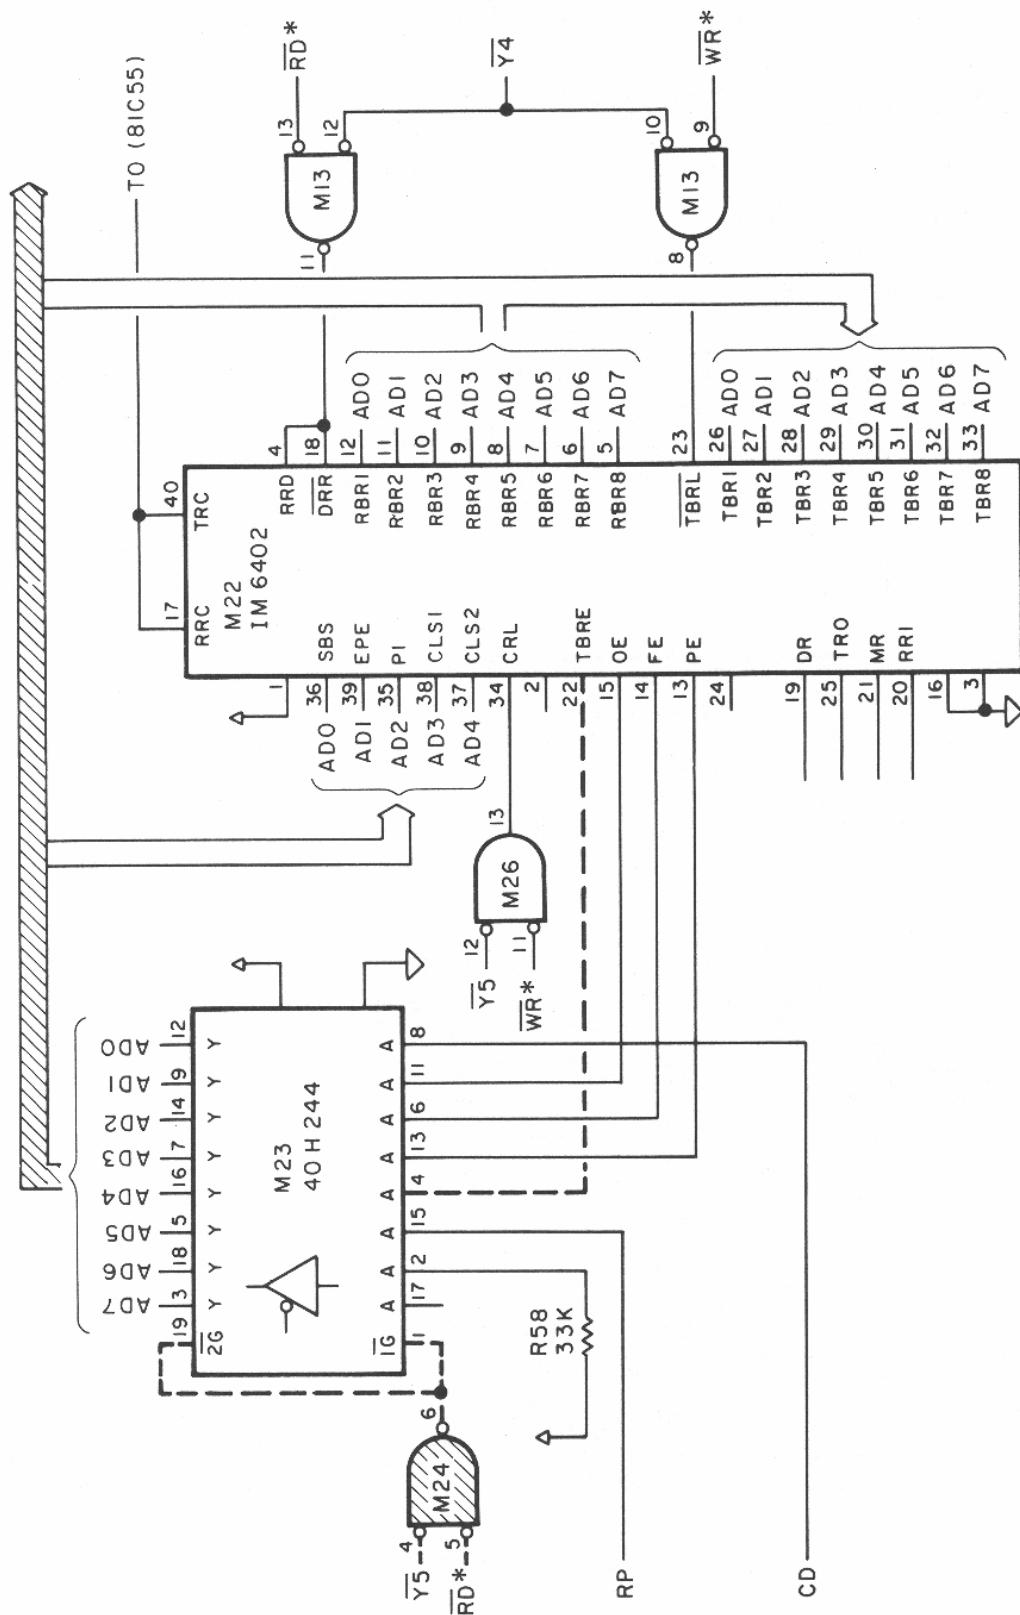

Figure 7.4a. UART data transmission
Before sending a character by way of the UART, the CPU must confirm that any character in the TBR has already been received by the TR. The CPU does this by inspecting the condition of bit 4 of input port D8 (or D0 decimal 208 or 216). That bit carries the UART signal TBRE (transmitter buffer register empty) signal (*see table 7.4*). This is shown schematically in figure 7.4a.
Such errors are known as *overrun errors* (OE), *framing errors* (FE), and *parity errors* (PE), respectively. These signals are made available to the CPU at input port D8 (or D0 decimal 208 or 216); the connection is shown in figure 7.4a. The various bits of the input port are shown in table 7.4. To obtain the UART error, the value returned at the port should be ANDed with 0E.